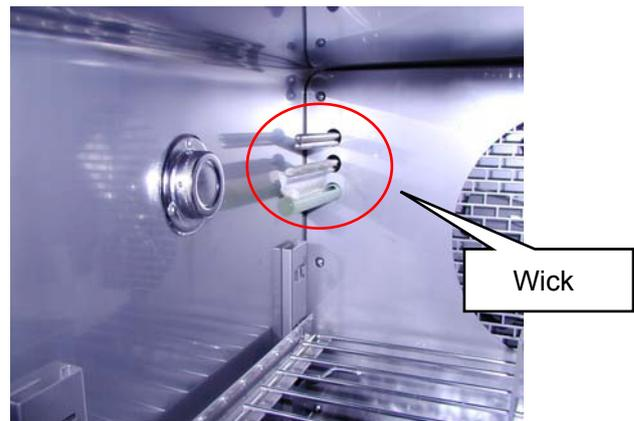

Fig.8
- d. Do not put samples under wick because water will fall.(Fig.8)